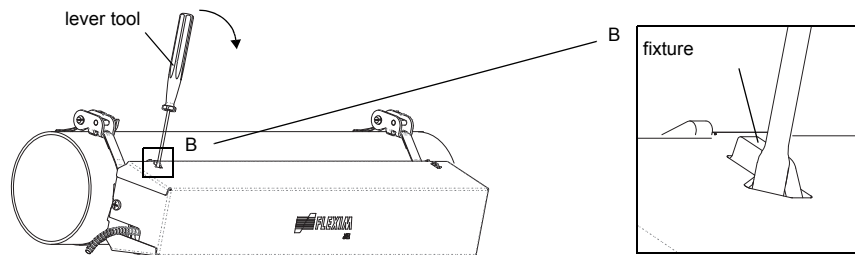

Fig. 7.20: Removal of the cover
- Insert the lever tool in one of the four openings of the cover (see Fig. 7.20).